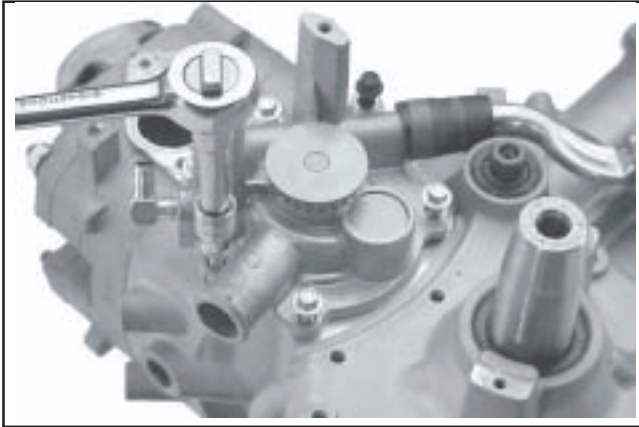

Figure 9-48. Removing Water Pump Screws.
- Remove the six screws securing the water pump to the crankcase. See Figure 9-48.